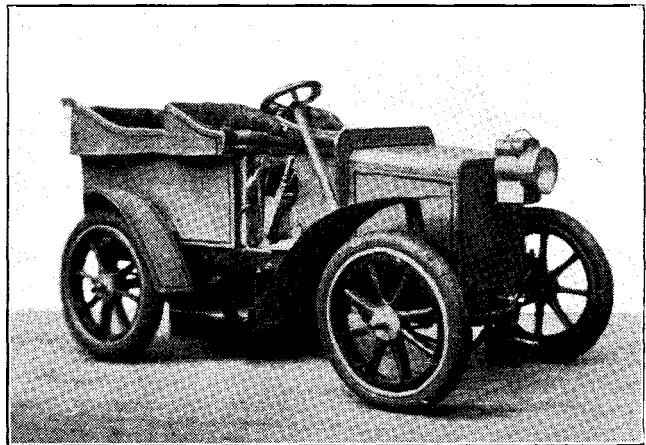

Fig. 4.-The Model Car driven by the Experimental Steam Set.
A rectangular boiler is situated under the front seat ; it has an internal firebox, which is fitted with three cross-water tubes, and the fumes from the spirit lamp pass through a single fuel tube, of rectangular section, the outlet of which is on the opposite side of the car to that seen in Fig. 4. This boiler appears to be deficient in steaming qualities, the builder
Just below the driver's seat (Fig. 4) the water gauge may be seen, this gauge is really a glass window in the boiler shell ; the small lever to
the right of the gauge is the throttle Fig. 3 shows the arrangement of the chassis ; the feed pump (A) is actuated by an eccentric on the propeller shaft ; the eccentric strap can be disengaged from the sheave by means of the lever in front of the water gauge. (Fig. 4.)
The cylinders should be made of close-grained cast-iron, care being taken to obtain a clean, sound casting. The casting should be accurately marked off to the dimensions given in Fig. 4.